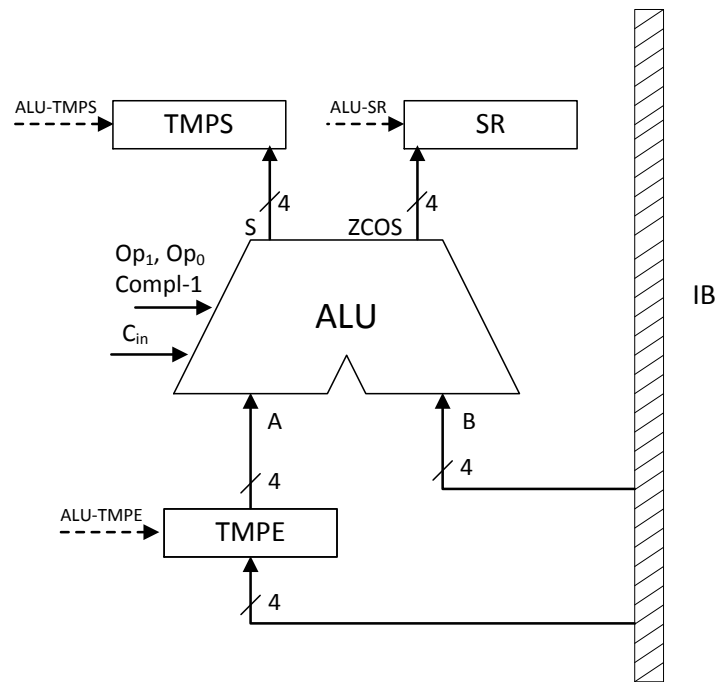

Figure 3.4: Block diagram of the CPU
- ❑ Make the appropriate connections among the macros and the connection points of the circuit. Once at this point, the circuit implements the scheme shown in figure 3.4.